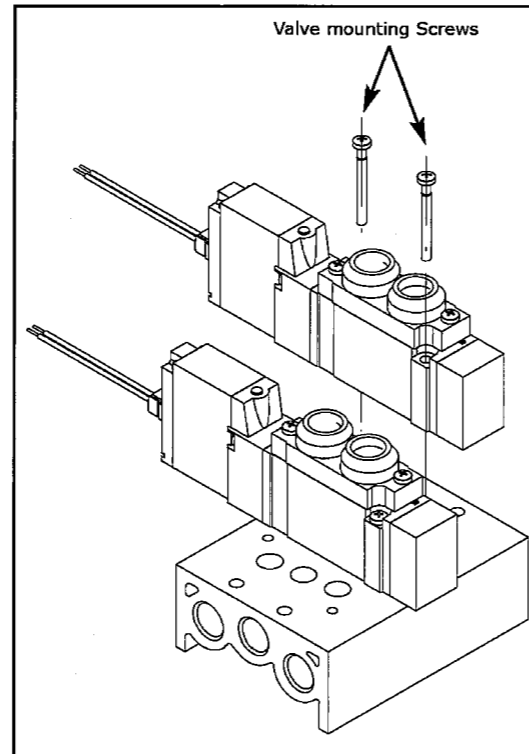

Figure 23
7.2.1 Reassembling valve (see Figure 23)